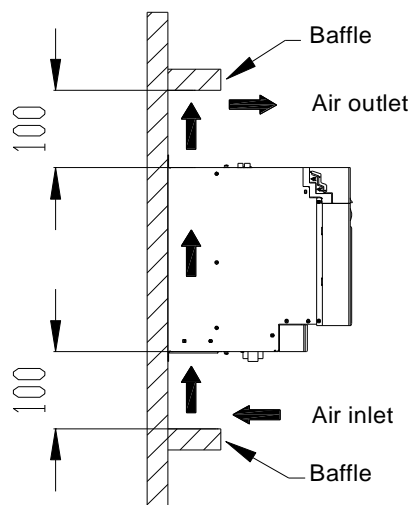

Figure 4-4 Clearances from the upper and lower barriers (the preceding sizes are the minimum, unit: mm)
- A minimum ventilation clearance must be kept from the top and bottom of each unit to ensure good heat dissipation. For details, see Figure 4-4.